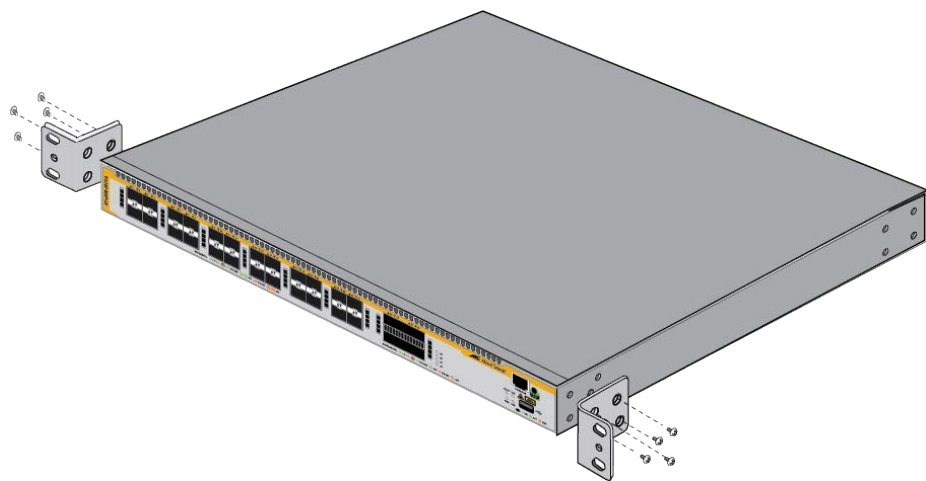

Figure 17. Attaching the Rack Mount Brackets
4. Attach the rack mount brackets to the sides of the switch with the eight M3x6 screws as shown in Figure 17.